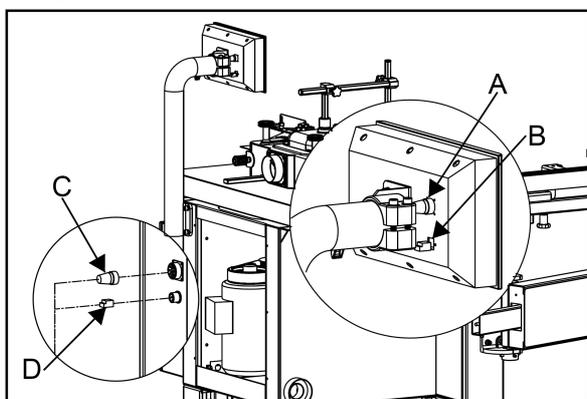

**Fig.18**
1. Install the bracket (A) to the main cabinet with four M10X25 cap screws(B), as **Fig.18**.